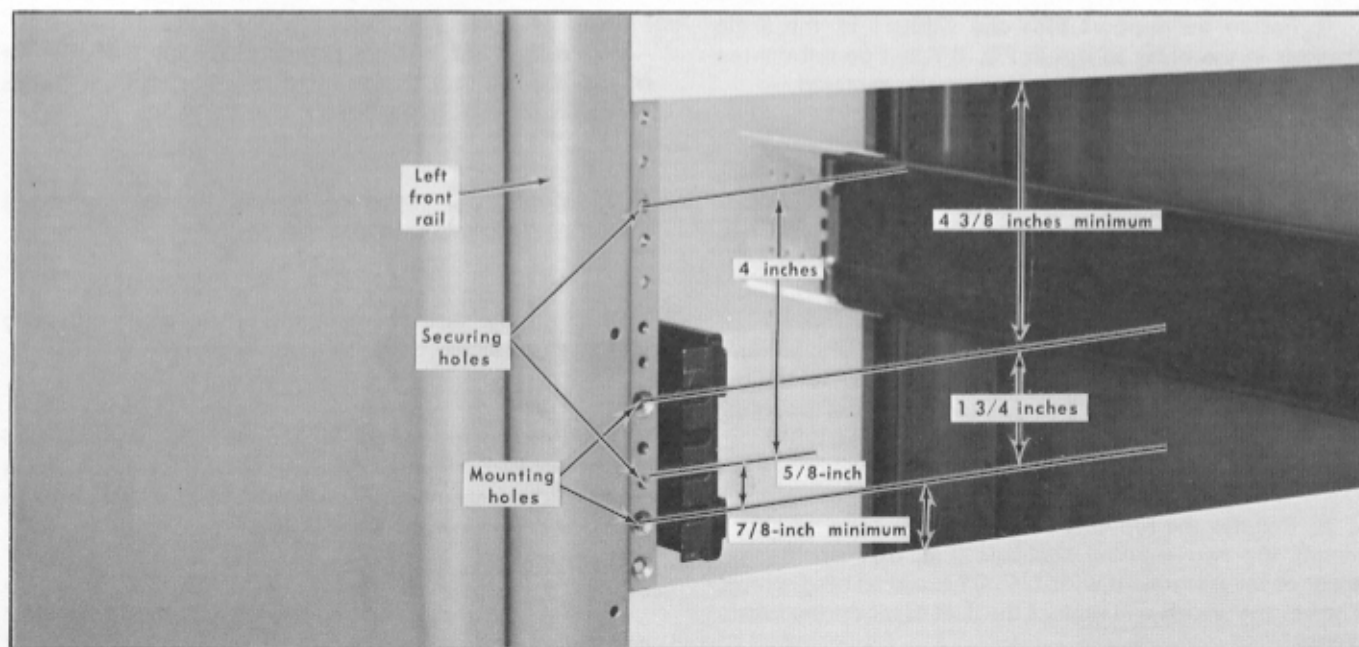

Fig. 8-5. Vertical mounting position for front end of slide-out tracks. Left stationary section (only) is shown.
¹ Universal hole spacing is: 5/8", 5/8", 1/2", 5/8", 5/8", 1/2", Racks with other hole spacing may need to have additional holes drilled and tapped in the support rails at the locations indicated in Figs. 8-5 and 8-9.
1. Referring to Fig. 8-5, select the proper front-rail mounting holes for the stationary sections.